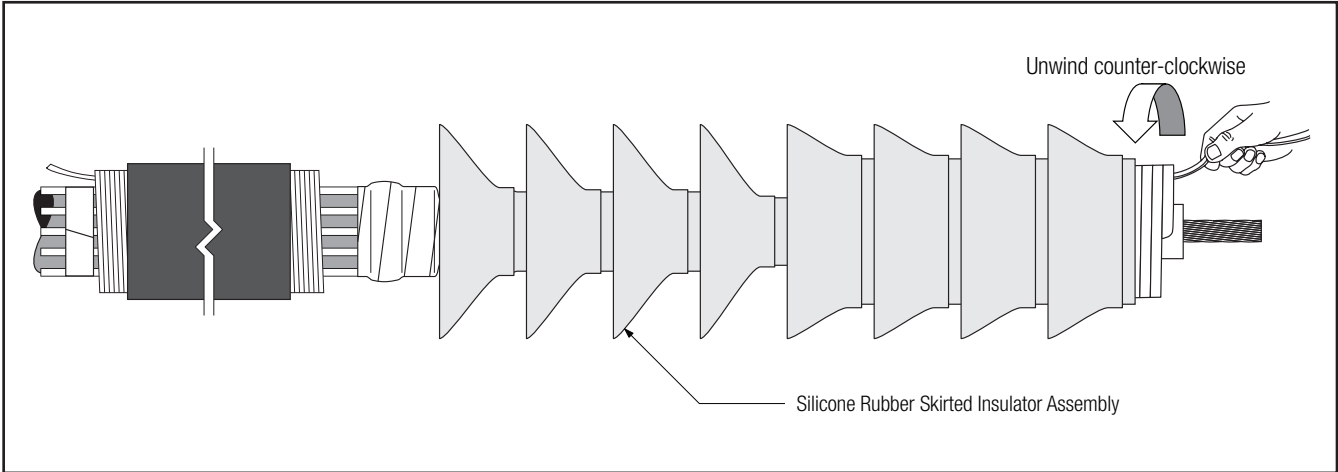

Figure 10
2.10 Slide the Silicone Rubber Skirted Insulator Assembly onto the cable. Align the assembly tube (not the core) with the sealing mastic/wire cover tape located 3.0" (76 mm) from the end of the cable semi-con, and remove the core by pulling the loose end while unwinding counter-clockwise. (Figure 10)